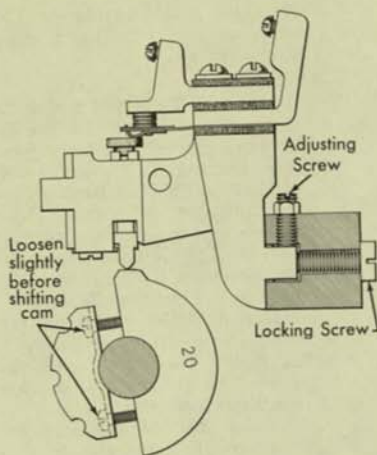

Figure 6. Plunger Circuit Breaker Adjustments 4 and 5
4. Locate the cam contact unit on the mounting bar with the plunger on the highest point of the cam lobe and the contact points just closed (Figure 6), and advance the adjusting screw one-half turn to obtain a .010" to .015" additional movement of the plunger. The total rise from the low dwell to the high dwell of the cam is .065". With the air gap set for .015" to .018" and the contact assembly correctly located on the mounting bar, the clearance between the cam plunger and the low dwell should not be greater than .018". This may be checked by inserting an .018" gauge between the low dwell of the cam and the plunger and observing any perceptible movement of the contact strap. This indicates that the additional travel of the plunger, after the contact is closed, will be sufficient to compress the plunger spring and provide good contact tension.
5. To adjust the make time of the contact, loosen the screws holding the cam to the shaft (Figure 6) until the cam is just snug on the shaft. Turn the machine to the index point corresponding with the make time of the cam. Move the cam on the shaft in the direction of rotation until the contact just closes. The machine may now be turned to a point where the cam holding screws can be tightened. The circuit breaker cam clamp is provided with notches and accurate adjustment of the cam may be obtained by tapping lightly against the notch with a screwdriver.